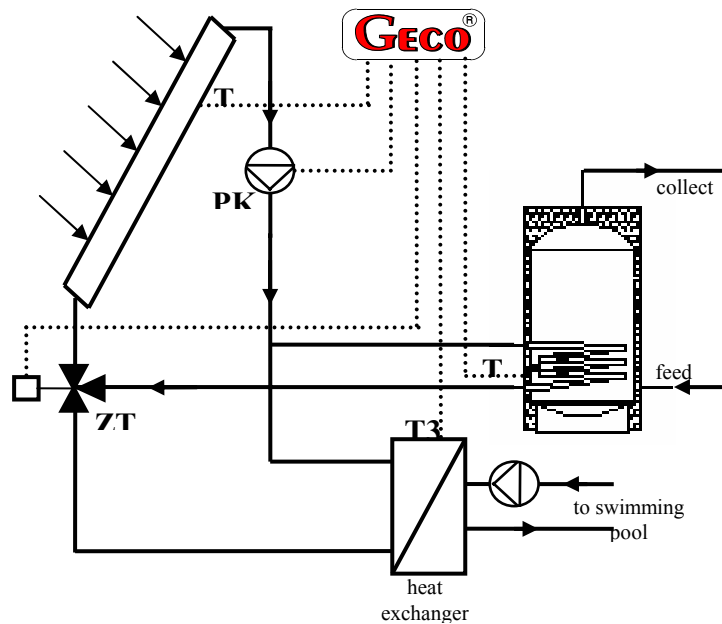

Fig. 4
- '4': a version with one collector and the function of swimming pool heating through the ZT valve (rys.4),